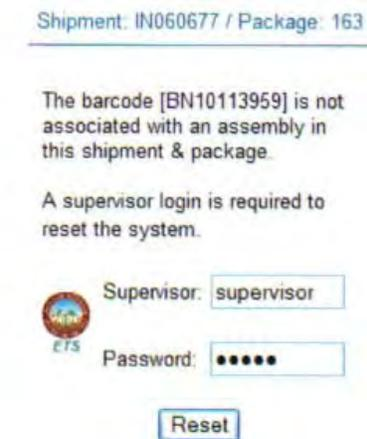

Figure 8 - 12 – Supervisor Screen
8.5.3 Press the reset button as shown in Figure 8 - 12.